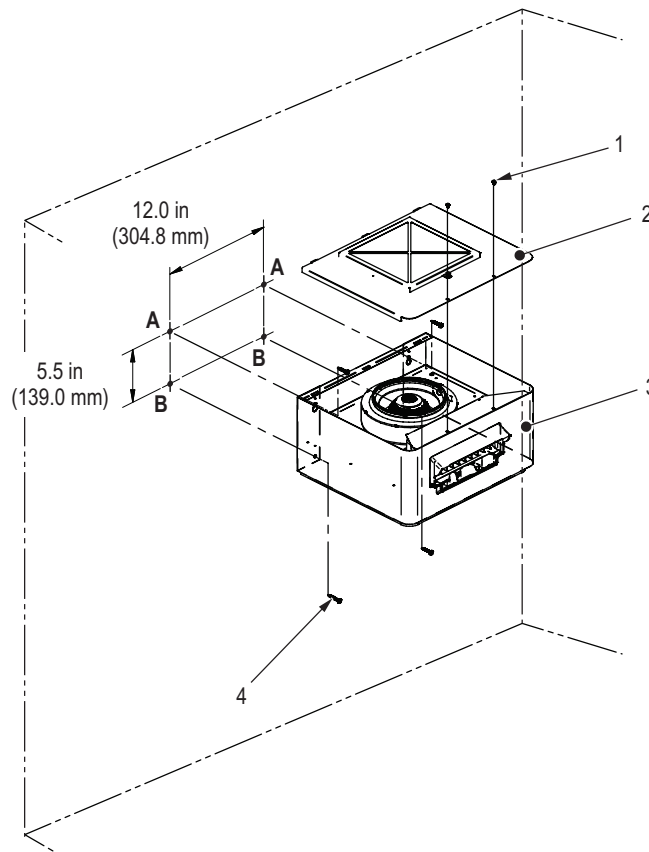

Figure 9: Wall-Mounted Nortec BP-Series Blower Pack
- a. Locate a 2×4 wooden stud or equivalent support in the mounting surface, and mark the attachment points "A" and "B" at the desired position with the help of a level – refer to Figure 9.